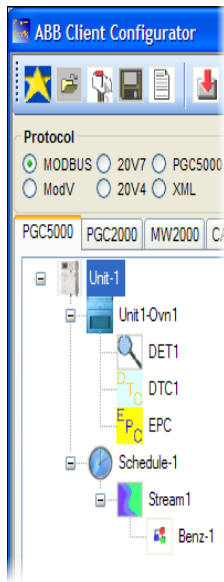

Fig. 7.17. MODBUS Configurator Example
1. Create the MODBUS.csv file using the ABB Client Configurator (see Figure 7.17).